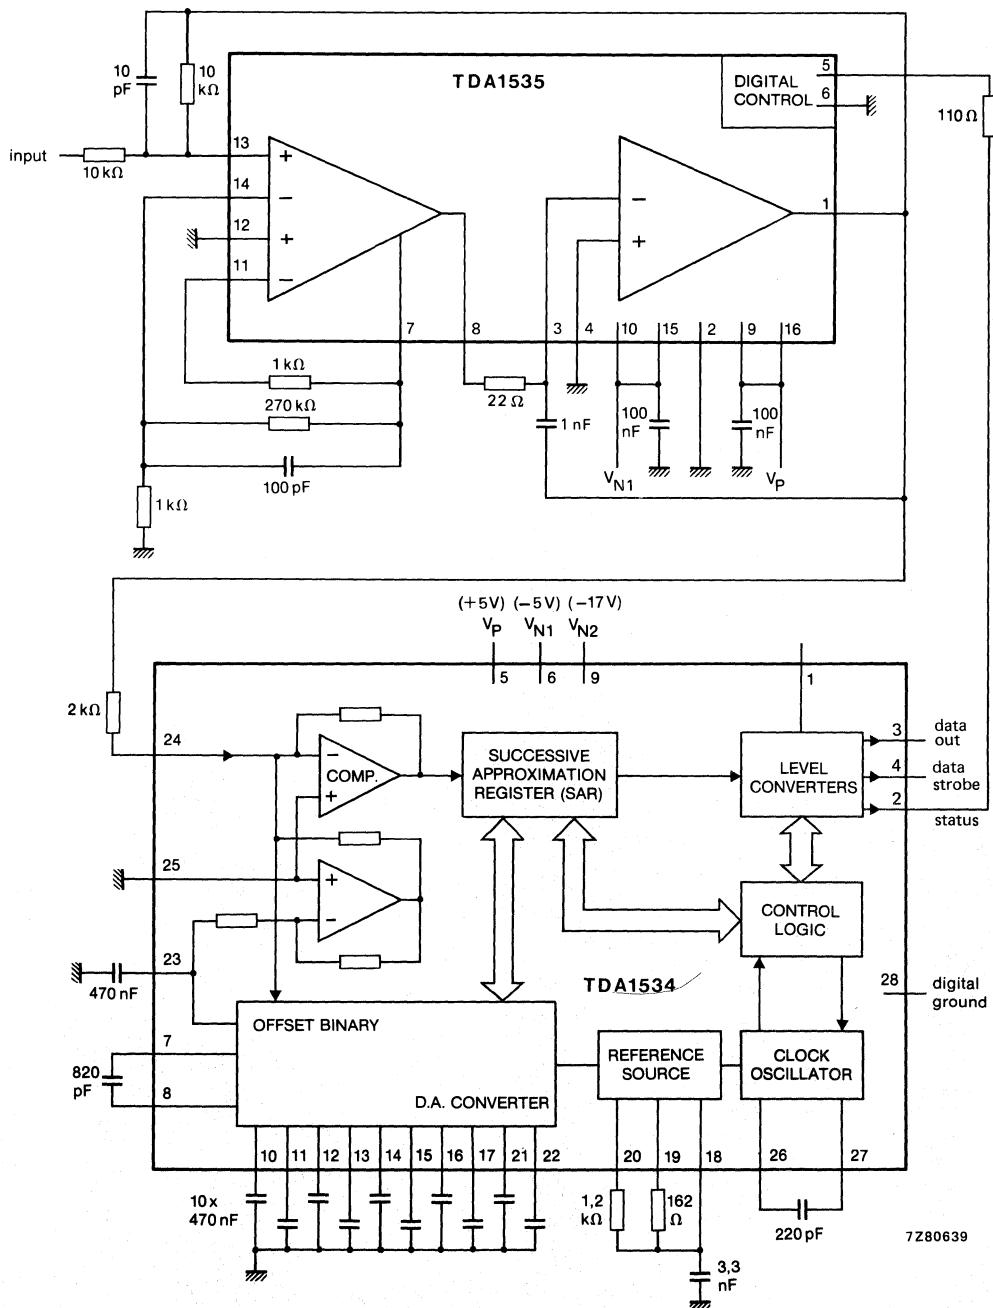

Fig. 4 Application and test circuit.
**CHARACTERISTICS** (see application circuit Fig. 4) $V_P = 5 \text{ V}$ ;  $-V_{N1} = 5 \text{ V}$ ;  $-V_{N2} = 17 \text{ V}$ ;  $T_{amb} = + 25 \text{ }^{\circ}\text{C}$ , unless otherwise specified.